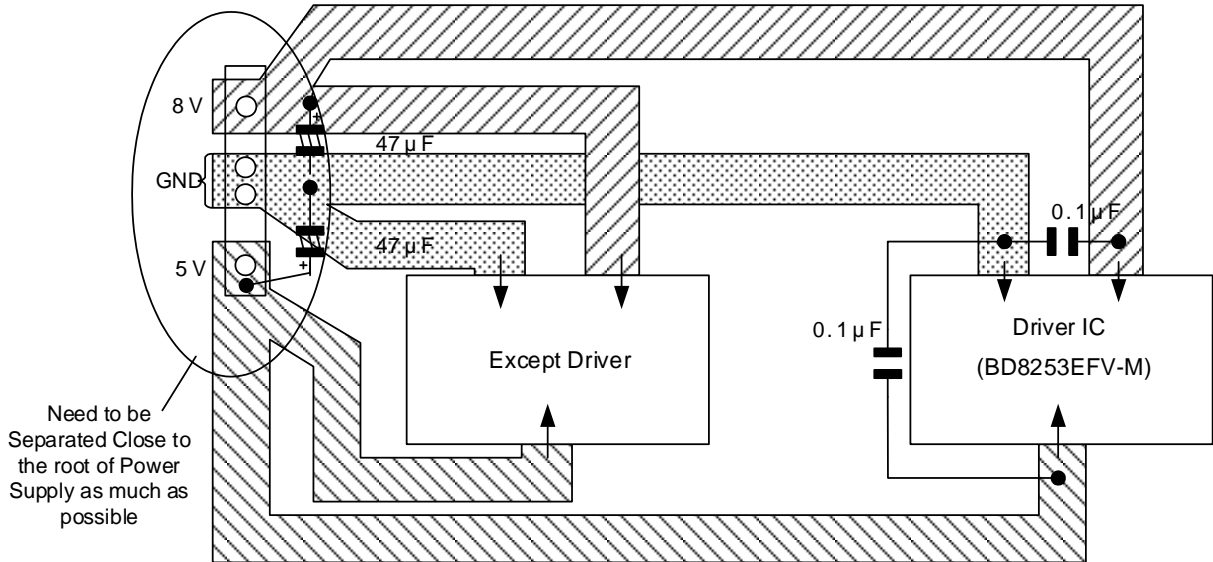

Figure 36. Example Pattern
(1) Reduce the wiring impedance on Power Supply and GND lines where high current flows. Make sure that they are separated from power supply lines of other devices so that they do not have common impedance. (Figure 36)